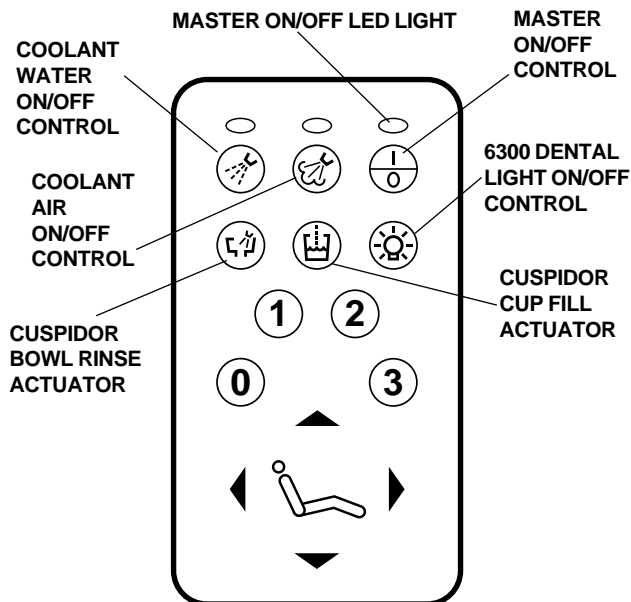

FIGURE 45
5. Turn the system on by pressing the master on/off control on the Master Touch Pad (see Figure 45). The LED above the master on/off control will illuminate when the system is ON.
7. Press the coolant air on/off and coolant water on/off controls (see Figure 45) to test the handpiece coolant. The LEDs above the control will illuminate when the functions are ON.
8. If a 6300 Dental Light is installed with the unit, check the function of the light by pressing the dental light on/off control on the Master Touch Pad (see Figure 45). The dental light will illuminate when the dental light on/off control is pressed.